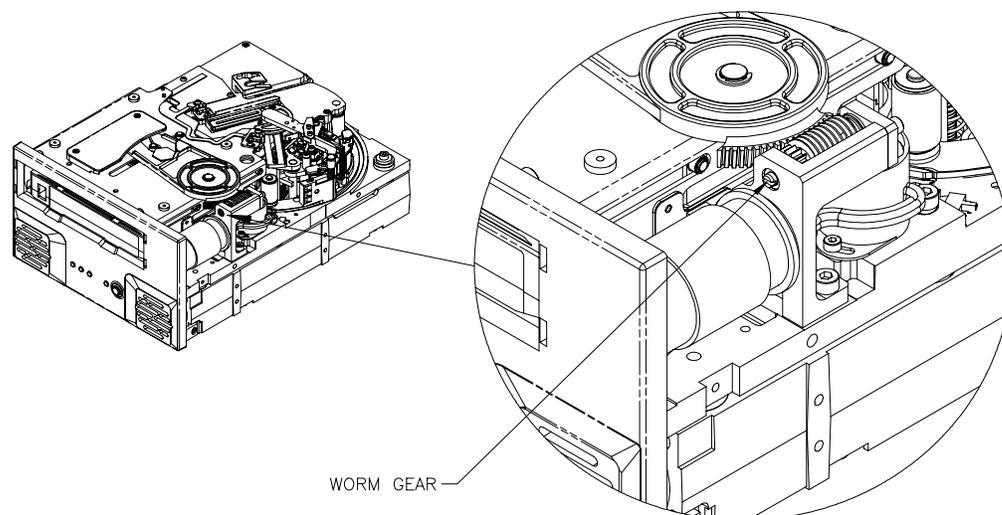

Figure 12. Diagram of Viper 200 showing worm gear
2. Use a flat-blade screwdriver to turn the worm gear counter clockwise (to the left). Figure 12 shows the location of the worm gear. This will gradually raise the cartridge elevator and cause the cartridge to slide partially out of the drive.